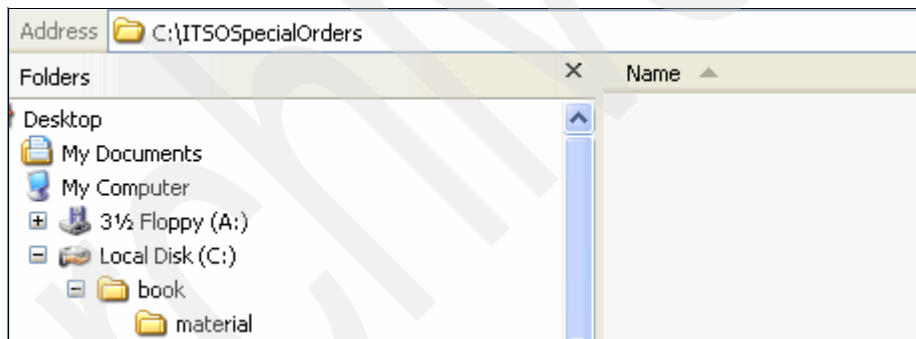

Figure 4-57 No files created for regular orders
3. Ensure that no files are found in C:\ITSOSpecialOrders as shown in Figure 4-57.